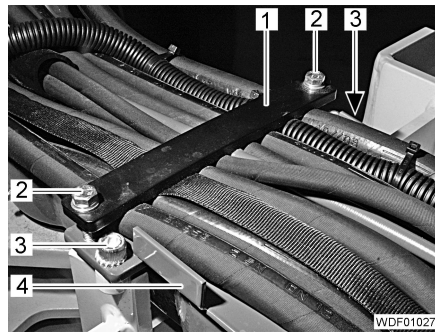

Fig. 350 Line attachment
- Put the holder (Fig. 350,4) into position and tighten the 2 screws (Fig. 350,3).
- Put the holder (Fig. 350,1) into position and tighten the 2 screws (Fig. 350,2).